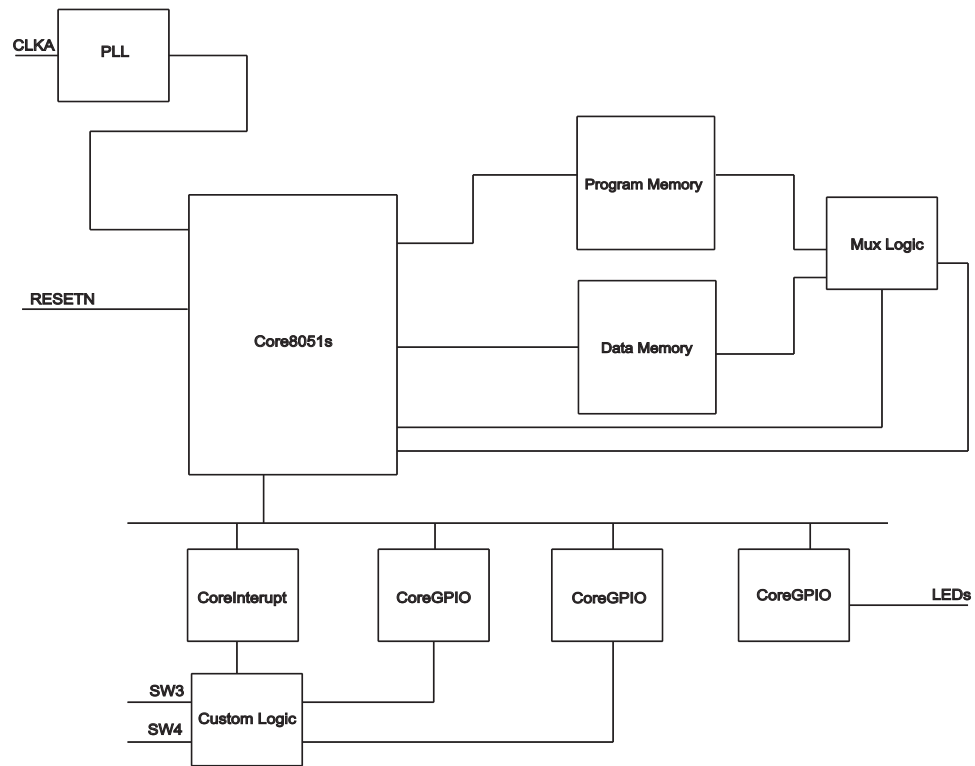
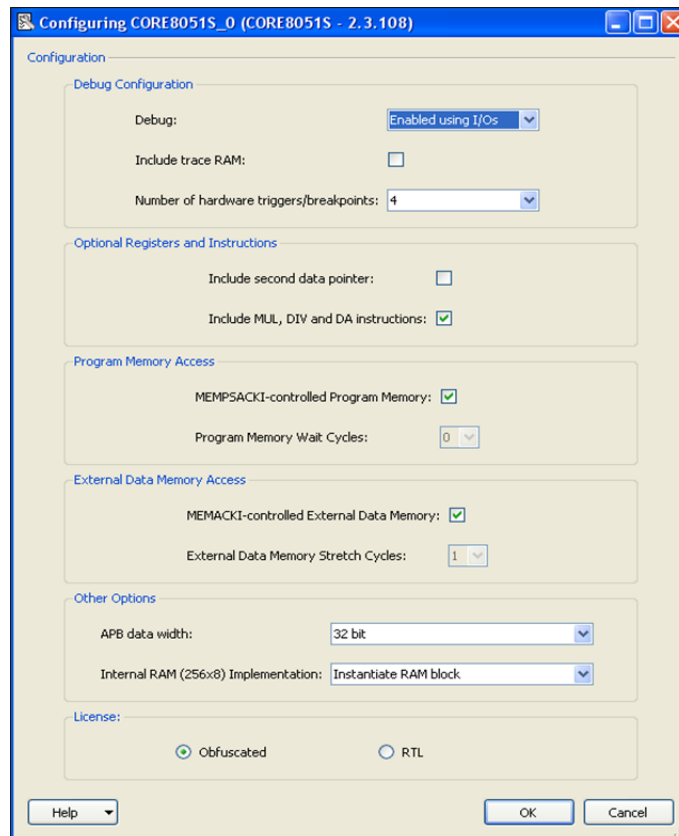
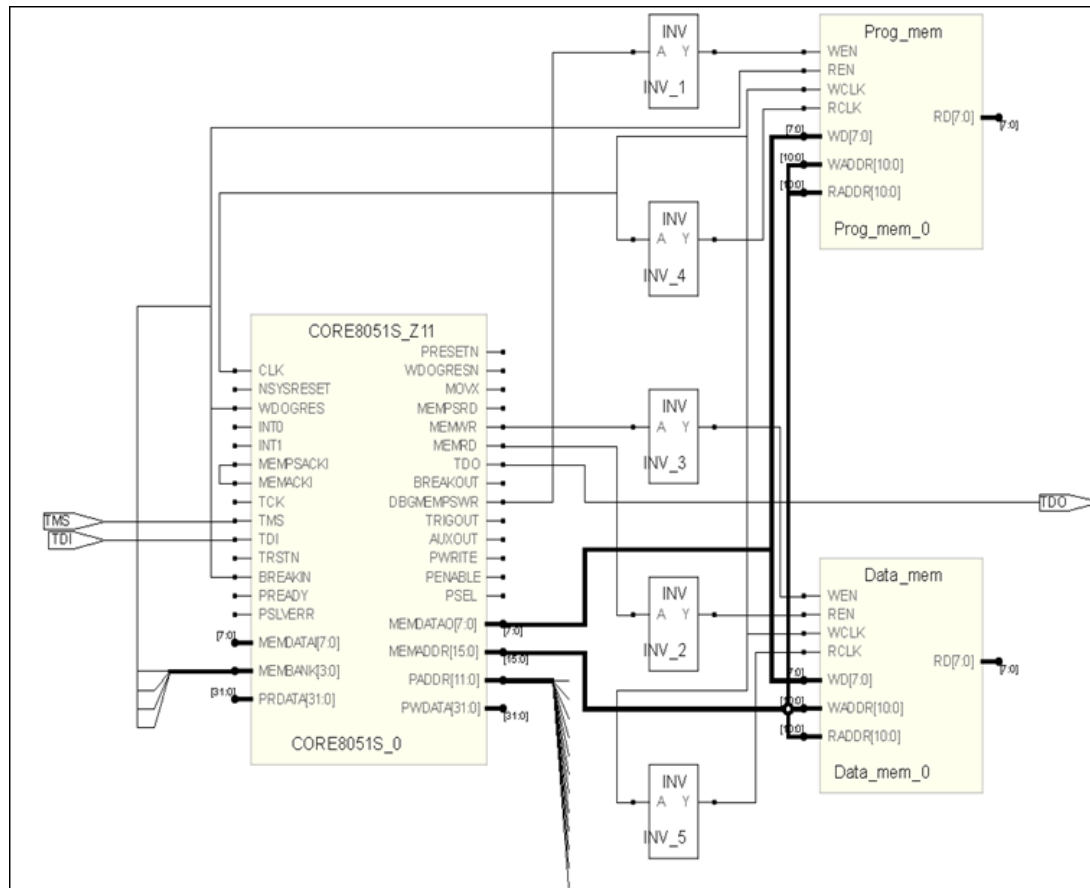

Figure 1 • Design Example Block Diagram
Figure 2 • Core8051s Configuration Settings
Figure 3 • Core8051s Connection to Program and Data Memory
Figure 1 shows a high-level block diagram of the design and Figure 2 on page 4 shows the Core8051s configuration setting. The **Enable user I/Os** option is selected for debug.
Figure 3 on page 5 shows the Core8051s block connected to the program and data memory. Read enable and write enable signal connections to the Core8051s block are shown. The memories are 2K deep and 8 bits wide. The program memory is accessed using program store memory acknowledge input (MEMPSACKI) and data memory is accessed using data memory acknowledge input (MEMACKI). The MUX logic block in Figure 1 on page 3 is used to control the data being passed to Core8051s.
- Status: Read the status information. Note that the OCI version is 0x60 and Triggers is 4. These numbers match the Core8051s configuration settings in Figure 2 on page 4.